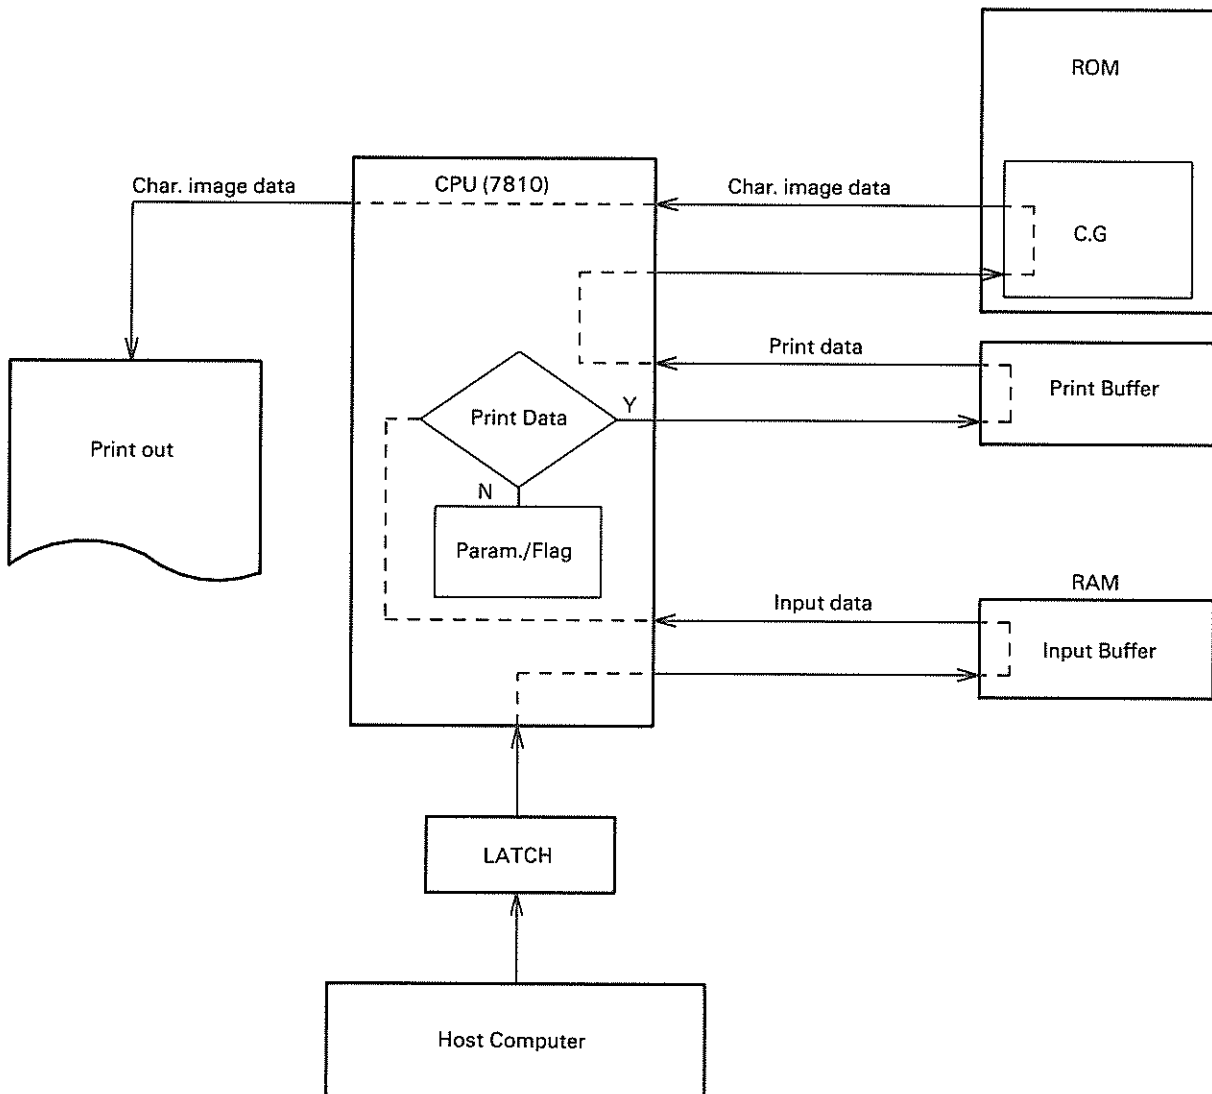

Fig. 2-9. Data Flow (FX-80+/100+)
2.4.7.1 Data Flow of the FX-80+/FX-100+ (Fig. 2-9)